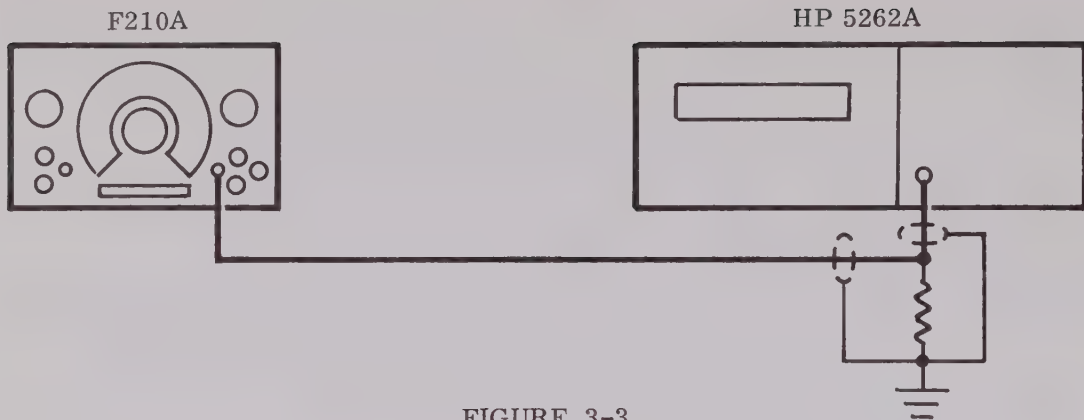

FIGURE 3-3
1. Interconnect the equipment as shown in Figure 3-3, observing signal and ground connections carefully.